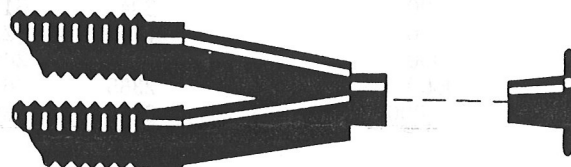

Figure 4-3
- c. Occlude the rebreathing bag nipple and the patient end—at the "Y" connector—of the patient circuit. (See figure 4-3.)